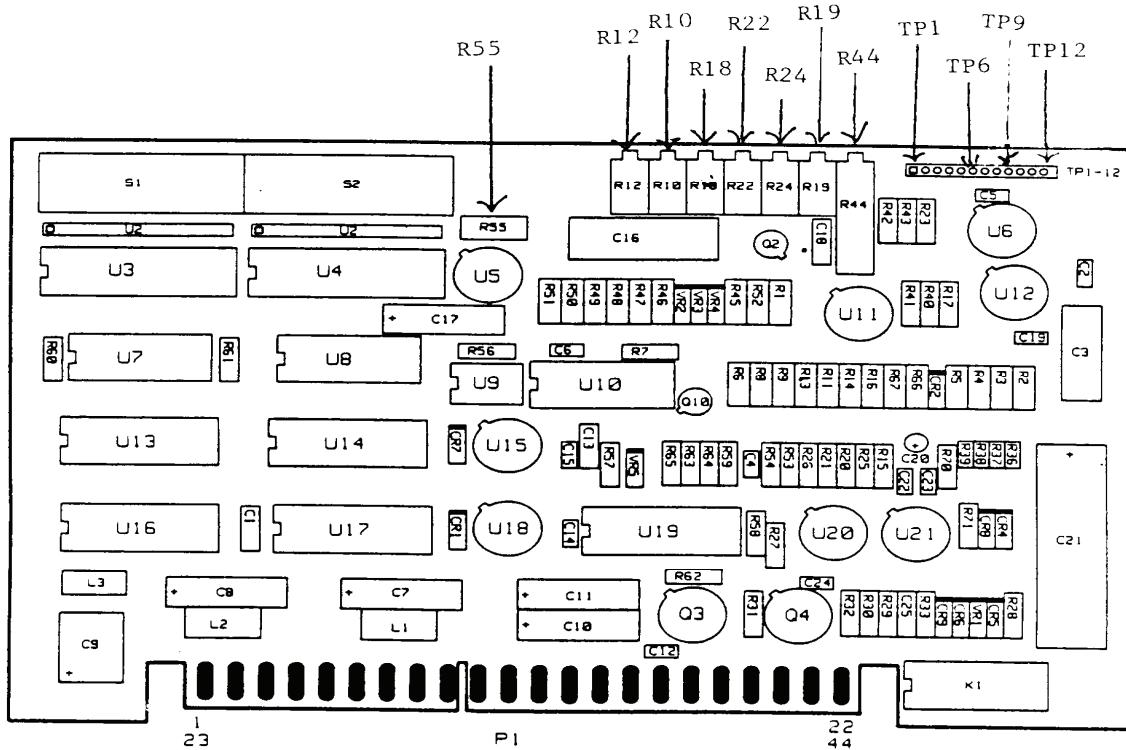
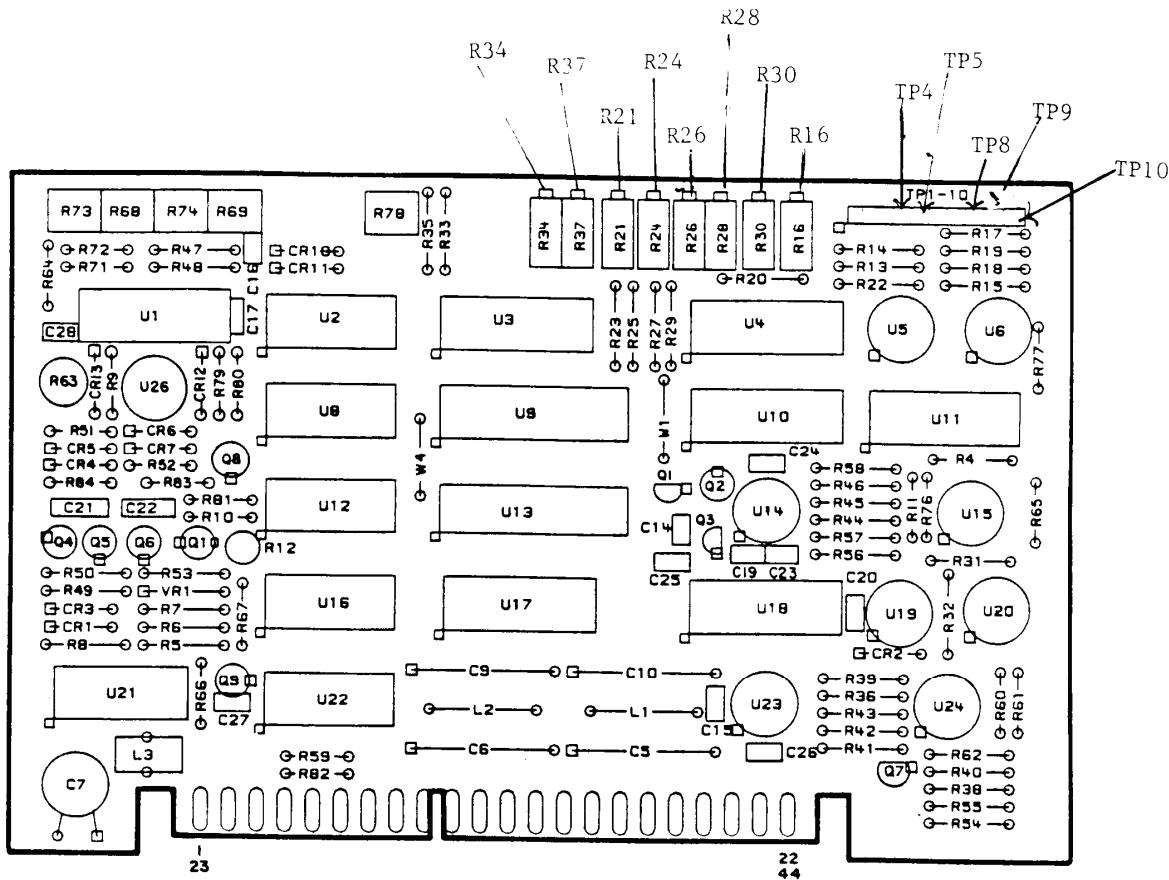
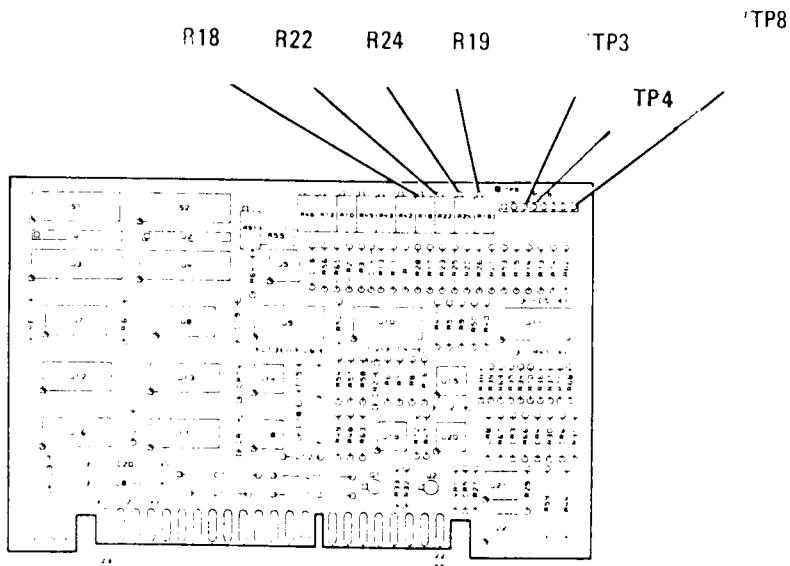

Figure 6. A8 board adjustment locations.
Figure 7. A6 board adjustment locations.
Figure 8. A7 board adjustment locations.
- (1) Connect multimeter to A8TP12 (+) and A8TP1 (-) (fig. 6).
- (2) Adjust A8R44 (fig. 6) for multimeter indication of -10.000 V dc (R).
- (3) Disconnect multimeter from A8TP12 and A8TP1. Connect to A6TP9 (+) and A6TP10 (-) (fig. 7).
- (4) Press **INSTR PRESET** and **CW** keys. Enter data **20 GHz** on keyboard.
- (5) Adjust **FREQUENCY VERNIER** control for multimeter indication of 10.000 V dc.
- (6) Disconnect multimeter from A6TP9 and A6TP10. Connect to A8TP6 (+) (fig. 6) and A7TP8 (-) (fig. 8).
- (7) Press function keys and enter corresponding data on keyboard as listed in as listed in (a) through (f) below:
(8) The **FREQUENCY** display will indicate 2C83 and the **FREQUENCY/TIME** display will indicate 00; if not, repeat (3) through (7) above.
(9) Adjust A8R22 (fig. 6) for multimeter indication of -7.000 V dc (R).
(10) Press ↓ key two times. The **FREQUENCY** display will indicate **2C81**.
(11) Press function keys and enter corresponding data on keyboard as listed in (a) through (d) below:
(12) The **FREQUENCY** display will indicate **2C83** and the **FREQUENCY/TIME** display will indicate **0F**.
(13) Adjust A8R24 (fig. 6) for multimeter indication of -20.000 V dc (R).
(14) Repeat (10) above.
(15) Press function keys and enter corresponding data on keyboard as listed in (a) through (d) below:
(16) The **FREQUENCY** display will indicate **2C83** and the **FREQUENCY/TIME** display will indicate **F0**.
(17) Adjust A8R19 (fig. 6) for multimeter indication of -26.500 V dc (R).
(18) Press ↑ key four times. The **FREQUENCY** display will indicate **2C87**.
(19) Press function keys and enter corresponding data on keyboard as listed in as listed in (a) through (d) below:
(20) The **FREQUENCY** display will indicate **2C8B** and the **FREQUENCY/TIME** display will indicate **00**.
(21) Disconnect multimeter from A8TP6 and connect to A7TP3 (fig. 8). Adjust A7R22 (fig. 8) for multimeter indication of -3.000 V dc (R).
(22) Press ↓ key two times. The **FREQUENCY** display will indicate **2C89**.
(23) Press function keys and enter corresponding data on keyboard as listed in as listed in (a) through (d) below:
(24) The **FREQUENCY** display will indicate **2C8B** and the **FREQUENCY/TIME** display will indicate **0F**.
(25) Adjust A7R24 (fig. 8) for multimeter indication of -19.500 V dc (R).
(26) Repeat (22) above.
(27) Press function keys and enter corresponding data on keyboard as listed in as listed in (a) through (d) below:
(28) The **FREQUENCY** display will indicate **2C8B** and the **FREQUENCY/TIME** display will indicate **F0**.
(29) Adjust A7R19 (fig. 8) for multimeter indication of -9.500 V dc (R).
(30) Press keys as listed in (a) through (c) below: